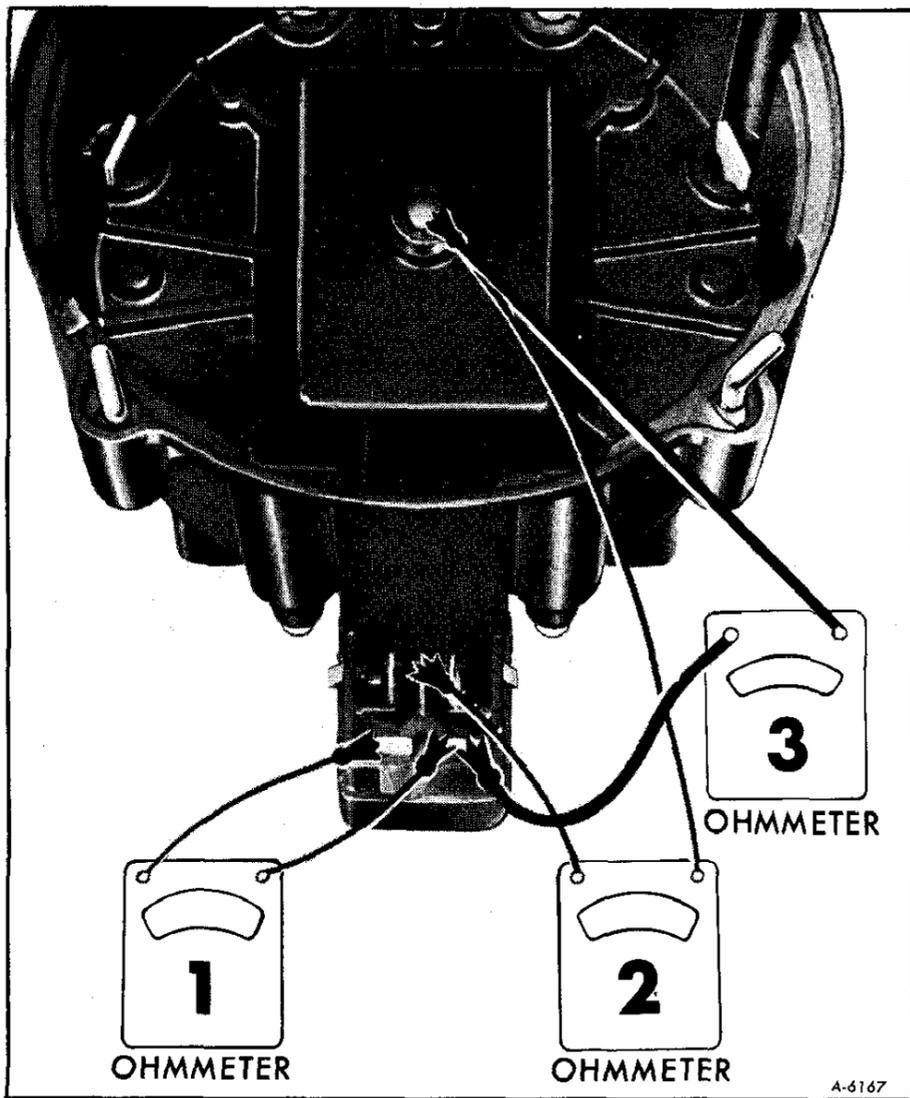

Figure 9—Ohmmeter Check of Ignition Coil
7. Check primary of ignition coil in cap for continuity with an Ohmmeter. (Refer to figure 9, step 1.) Reading should be zero or near zero. If not, replace ignition coil. After coil is replaced, proceed to steps 10 and 11.
8. Check secondary of coil (figure 9, step 2.) Use high scale. Reading should not be infinite. If everything checks good to this point, the HEI system is good.
4. Check the ignition coil primary for continuity with an ohmmeter (figure 9, step 1). Reading should be zero or near zero. If